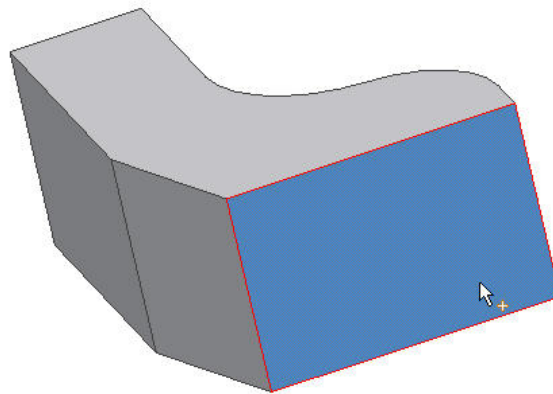

Figure 3
3. Rotate the part to view the bottom surface. This will be the face that will be removed. The button next to **Remove Faces** should be selected already, if not click on the button to select it. Move the cursor to the bottom face and click as shown in Figure 3.